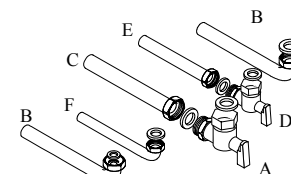

Fig. 5.3
- 4 Fix the gas cock A ($\frac{3}{4}$ ") to the boiler using the $\frac{3}{4}$ " gasket (Fig. 5.3)